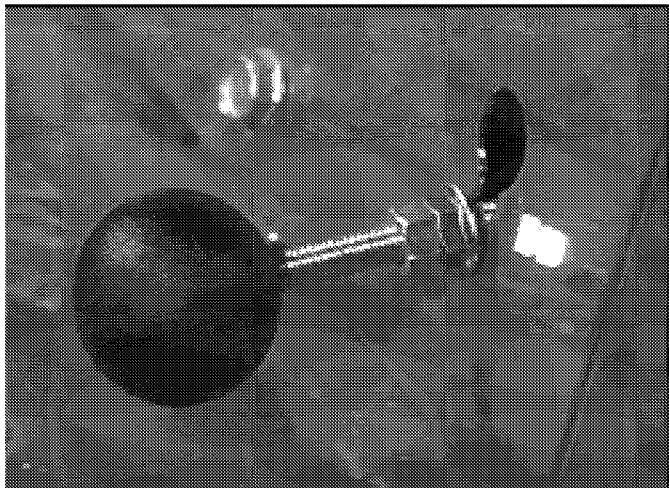

Figure 16
1. To adjust the brake, the parking brake knob will need to be pulled up in the travel slot until the nut on the rod can pass through the keyway. Figure 16